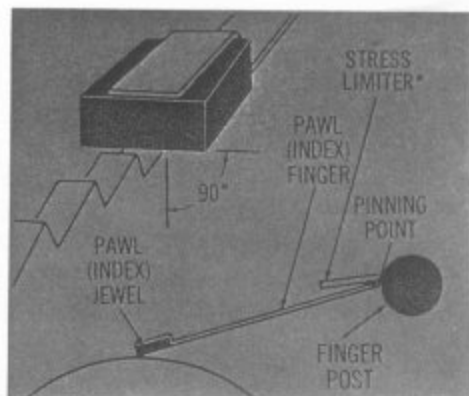

Fig. 10
3. Under the microscope, check to be sure that each finger is straight, that both jewels are centered on wheel (that both are neither too high nor too low) and that each is perpendicular to wheel (see Fig. 10). If index jewel is not centered, this can be corrected by the use of the Index Finger Post Wrench, which fits on the index finger post (located on one tine of the tuning fork). Placing the wrench over the end of the post, *gently* stress it in the proper direction to center the index jewel on the wheel, by bending the post. The pawl jewel can be centered by bending the pawl finger post with tweezers.
If either jewel is not perpendicular to the plane of the wheel (Fig. 10), this can be corrected by grasping the jewel finger (and stress limiter) close to the point where it is pinned, with tweezers (*be careful not to touch the jewel itself*) and twisting slightly.
Observe the stress limiters on index and pawl fingers (see Fig. 10). Check that no more than $\frac{1}{3}$ of the length of the stress limiter is in contact with the index or pawl finger. Also, check that end of